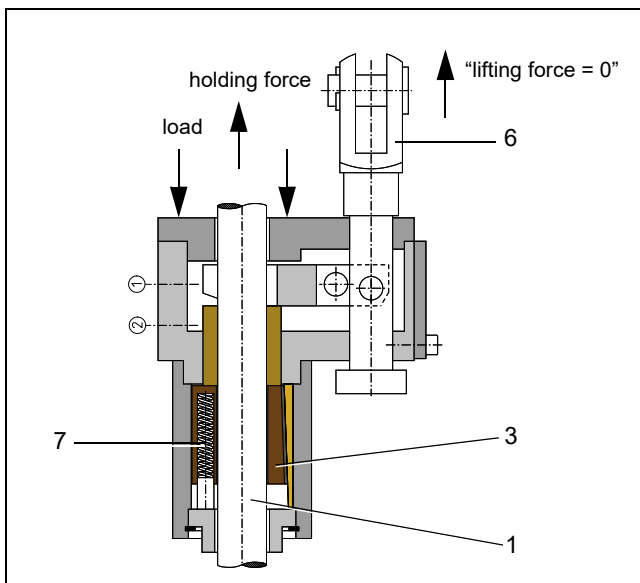
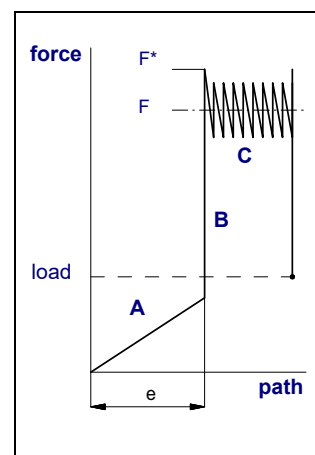

Fig. 3: Safety Catcher KRM (load secured)
Fig. 4: Force-path diagram, schematic
The action of the springs then causes the clamping jaws (3), Fig. 3 to clamp the rod (1), Fig. 3 firmly, thus securing the load.
The full clamping force is built up by as the Safety Catcher KRM together with the falling load is moving along the rod. Due to the self-intensifying static friction at the rod, the clamping jaws (3), Fig. 3 are drawn into the clamping position at their stops (7), Fig. 3 after having moved the tapering distance *e* (approx. 5 to 15 mm, depending on the design). This movement is illustrated as phase **A** in the force-path diagram, Fig. 4.